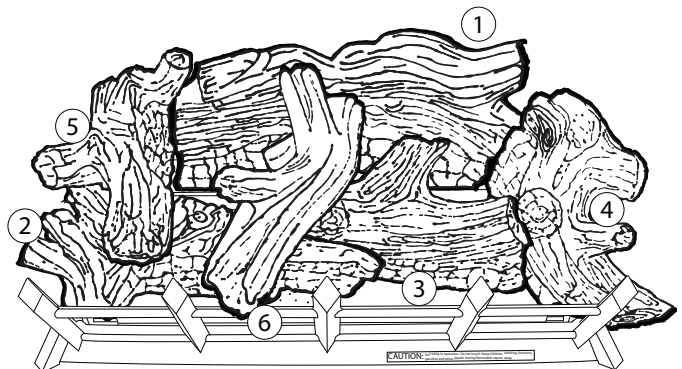

Figure 50
6. Place the top center log (#6) to the right of the pilot orifice allowing the log to rest on top of the front right log (#3) and the front left log (#2). (See Figure 50.)
8. Place mid left log (#8) on mid rear log (#7) and front bottom log (#5) by placing notches on bottom of log onto locating blocks on log #7 and log #5. Figure 50